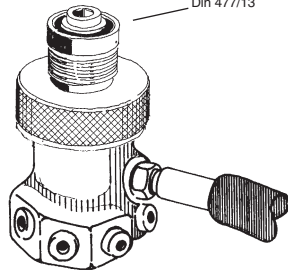

Fig. 1b
- Pression maximum 200 bar (raccord DIN 477/13) Fig. 1b.